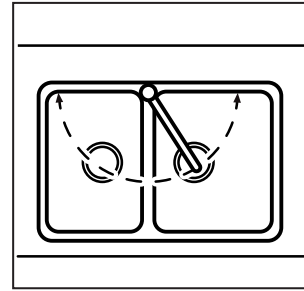

Figure 3
1. Unscrew the locking screw and remove the spout. **Figure 3B1**
Each segment removed increases the swing radius by 15 degrees. **Figure 3B2**
3. Thread the cut ring into the groove on the outlet spout. **Figure 3B3**
4. Reinsert the spout and ensure that the cut-out in the plastic ring sits opposite the hole for the locking screw. Push down the spout and at the same time screw in the locking screw. Press on the cover plate. **Figure 3B4**